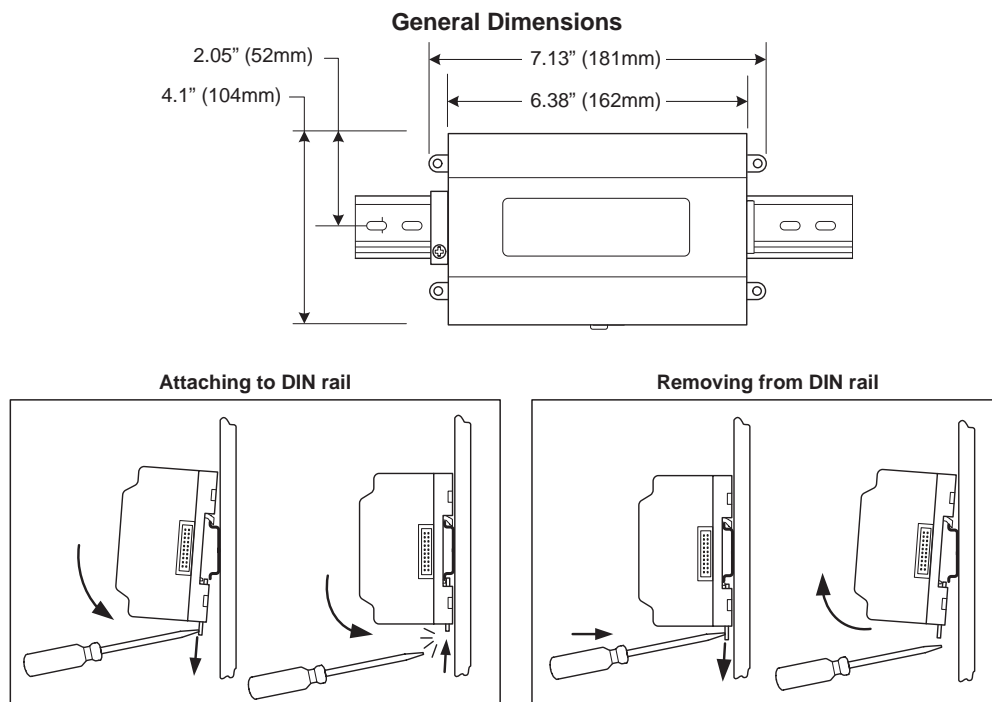

Fig. 1: DIN Rail Mounting
2. Position the Segment Manager on the rail, tilting to hook DIN rail tabs over one edge of the DIN rail (see Fig. 1).
NOTE: DIN rail mounting is recommended over tab mounting (see Fig. 1).